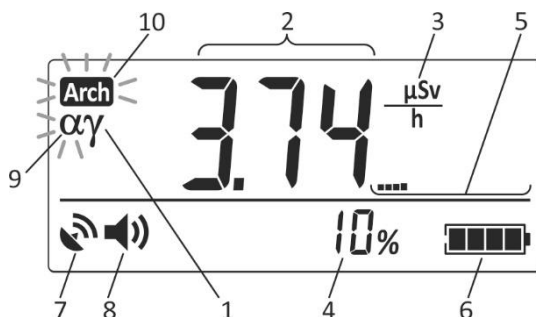

Figure 2.11 – LCD of the dosimeter
A blinking **Arch** symbol is indicative of critical filling of the nonvolatile memory and, therefore, of the possibility of information loss ((10) Figure 2.11). **Arch** symbol is briefly highlighted at a 4 second interval in all modes and submodes of the dosimeter except for the "Measurements results viewing stored in the nonvolatile memory" mode and "Measurement result saving in the nonvolatile memory" submode, if the circular buffer intended for DE accumulation history autosaving can provide for less than 10 DE records, or if information has already been lost.
2.3.6.5.1.2 When photon-ionizing radiation DER is measured using ABG probe, alpha radiation presence is also monitored. When alpha radiation is registered (when the pulse count rate from alpha radiation detector exceeds the value of 1 cps), the dosimeter's LCD begins to display a blinking "α" symbol ((9) Fig. 2.11) and generates typical sound and light alarms. Open the alpha detector window for correct registration of alpha radiation (Fig. 2.21).
2.3.6.5.2.3 In this mode the dosimeter's LCD displays the following (Figure 2.11):
- “ γ ” symbol (1) – radiation type under measurement;
- DER measurement result (2);
- DER measurement result dimension (3);
- estimated limits of the expected relative statistical deviations (4) of the measurement result (2) given 0.95 confidence probability – hereinafter referred to as the specified limits of statistical deviations.
- indicator of instantaneous DER value (5).
- battery status symbol (6);
- navigation receiver status symbol (7);
- status symbol of registered gamma quanta, alpha or beta particles signaling (8);
- symbol of alpha radiation presence (9) (when DER is measured using ABG probe);
- sign (10) of critical filling of the nonvolatile memory of the dosimeter, where DE accumulation history is stored (2.3.4 of this operating manual).